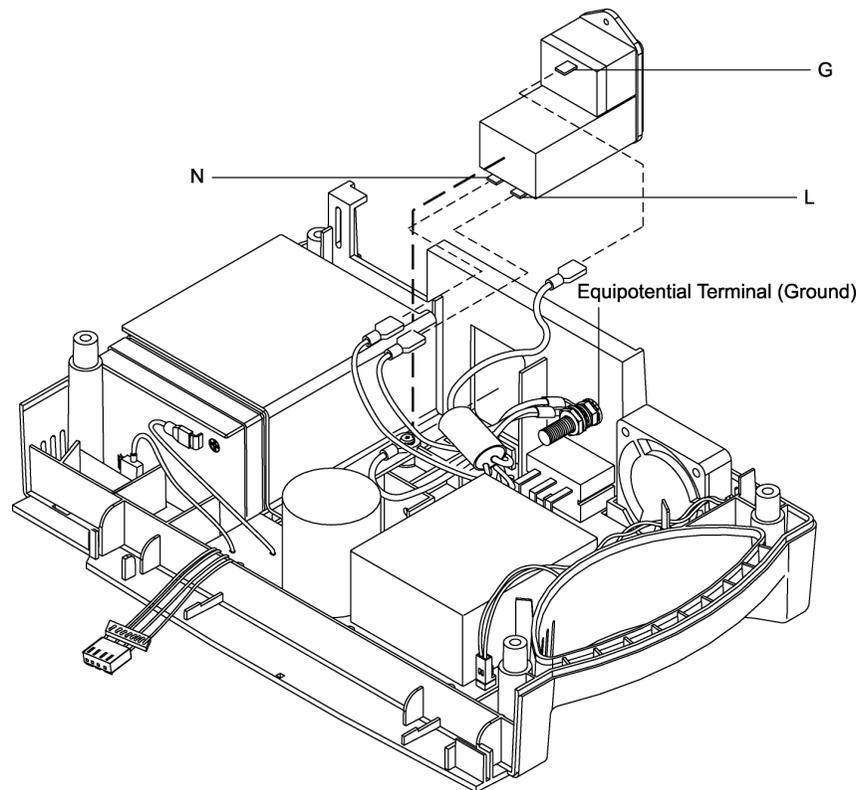

Figure 8: Power Entry Module
3. Use needle-nose pliers to disconnect the leads from the PEM (see Figure 8).
5. Use a 10-mm wrench to disconnect the Power Supply ground lead from the equipotential terminal (see Figure 8).
8. Reconnect the leads to the PEM following the instructions in Table 11, and Figure 8.